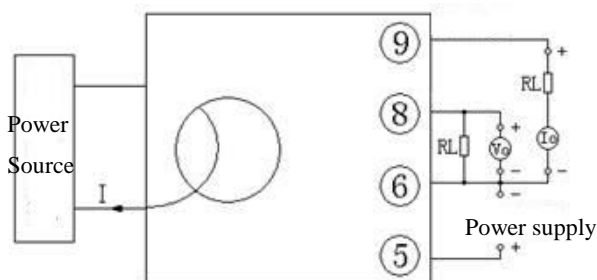

Figure 6, voltage or current output product accuracy test wiring diagram
①A high-precision high-current meter calibrator can directly input current as shown in figure 6, and record the display data of the meter calibration instrument.
②When using the common high-accuracy meter calibrator as the signal source, use ampere-turn method to output small current (5A, 10A or higher), and input it to the transducer input coil. The precision ammeter is tandem connection to the calibrator output end to detect input current, and convert the input current I value according to the ampere-turn method.